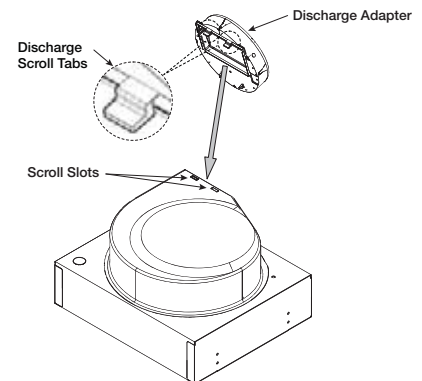

Figure 2 — Insert Discharge in Scroll
1. Insert discharge adapter tabs into the scroll slots, shown in Figure 2.